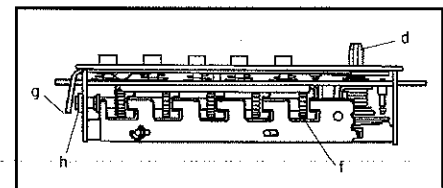

Fig. 4
- 9 Depress the lockout slide (g) at the top of the chamber and release (looks like one end of a spark plug) (See Figure 4).
- 10 Rotate the control shaft (d) counter-clockwise to clear the chamber and release. The lockout slide (g) should pop out (button will not move yet) (See Figure 4).
- 12 Once you have depressed all the digits in your new combination, turn the control shaft (d) clockwise (See Figure 4). The code change button (h) under lockout slide (g), should pop up (See Figure 4). Your new combination is now set.